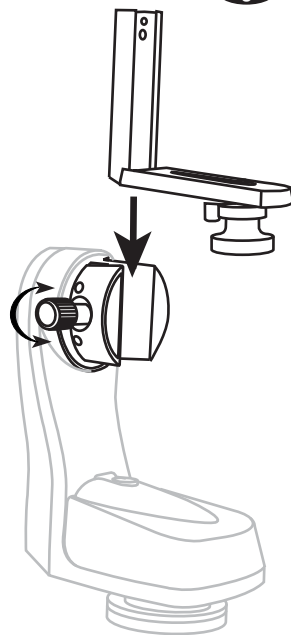

Fig.7
2. Locate the 1/4x20 Mounting Platform. Slide it down the slot on the Fork Arm as in dicated in Fig.7. Secure by tightening the thumb screws.